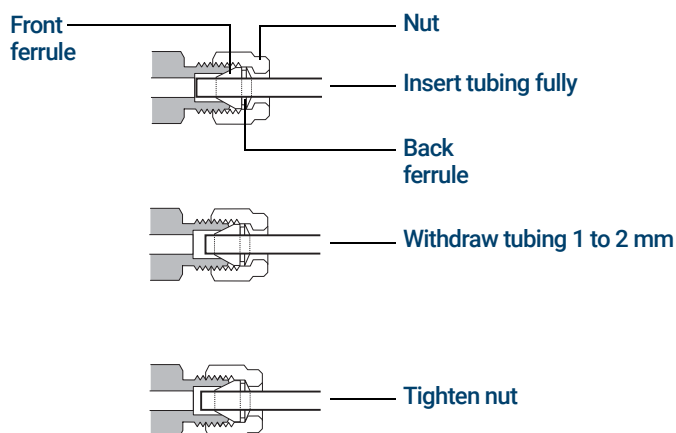

Figure 54. Insert the tubing
- 5 Push the tube fully into the plug, then withdraw it approximately 1 to 2 mm as shown in **Figure 54**.